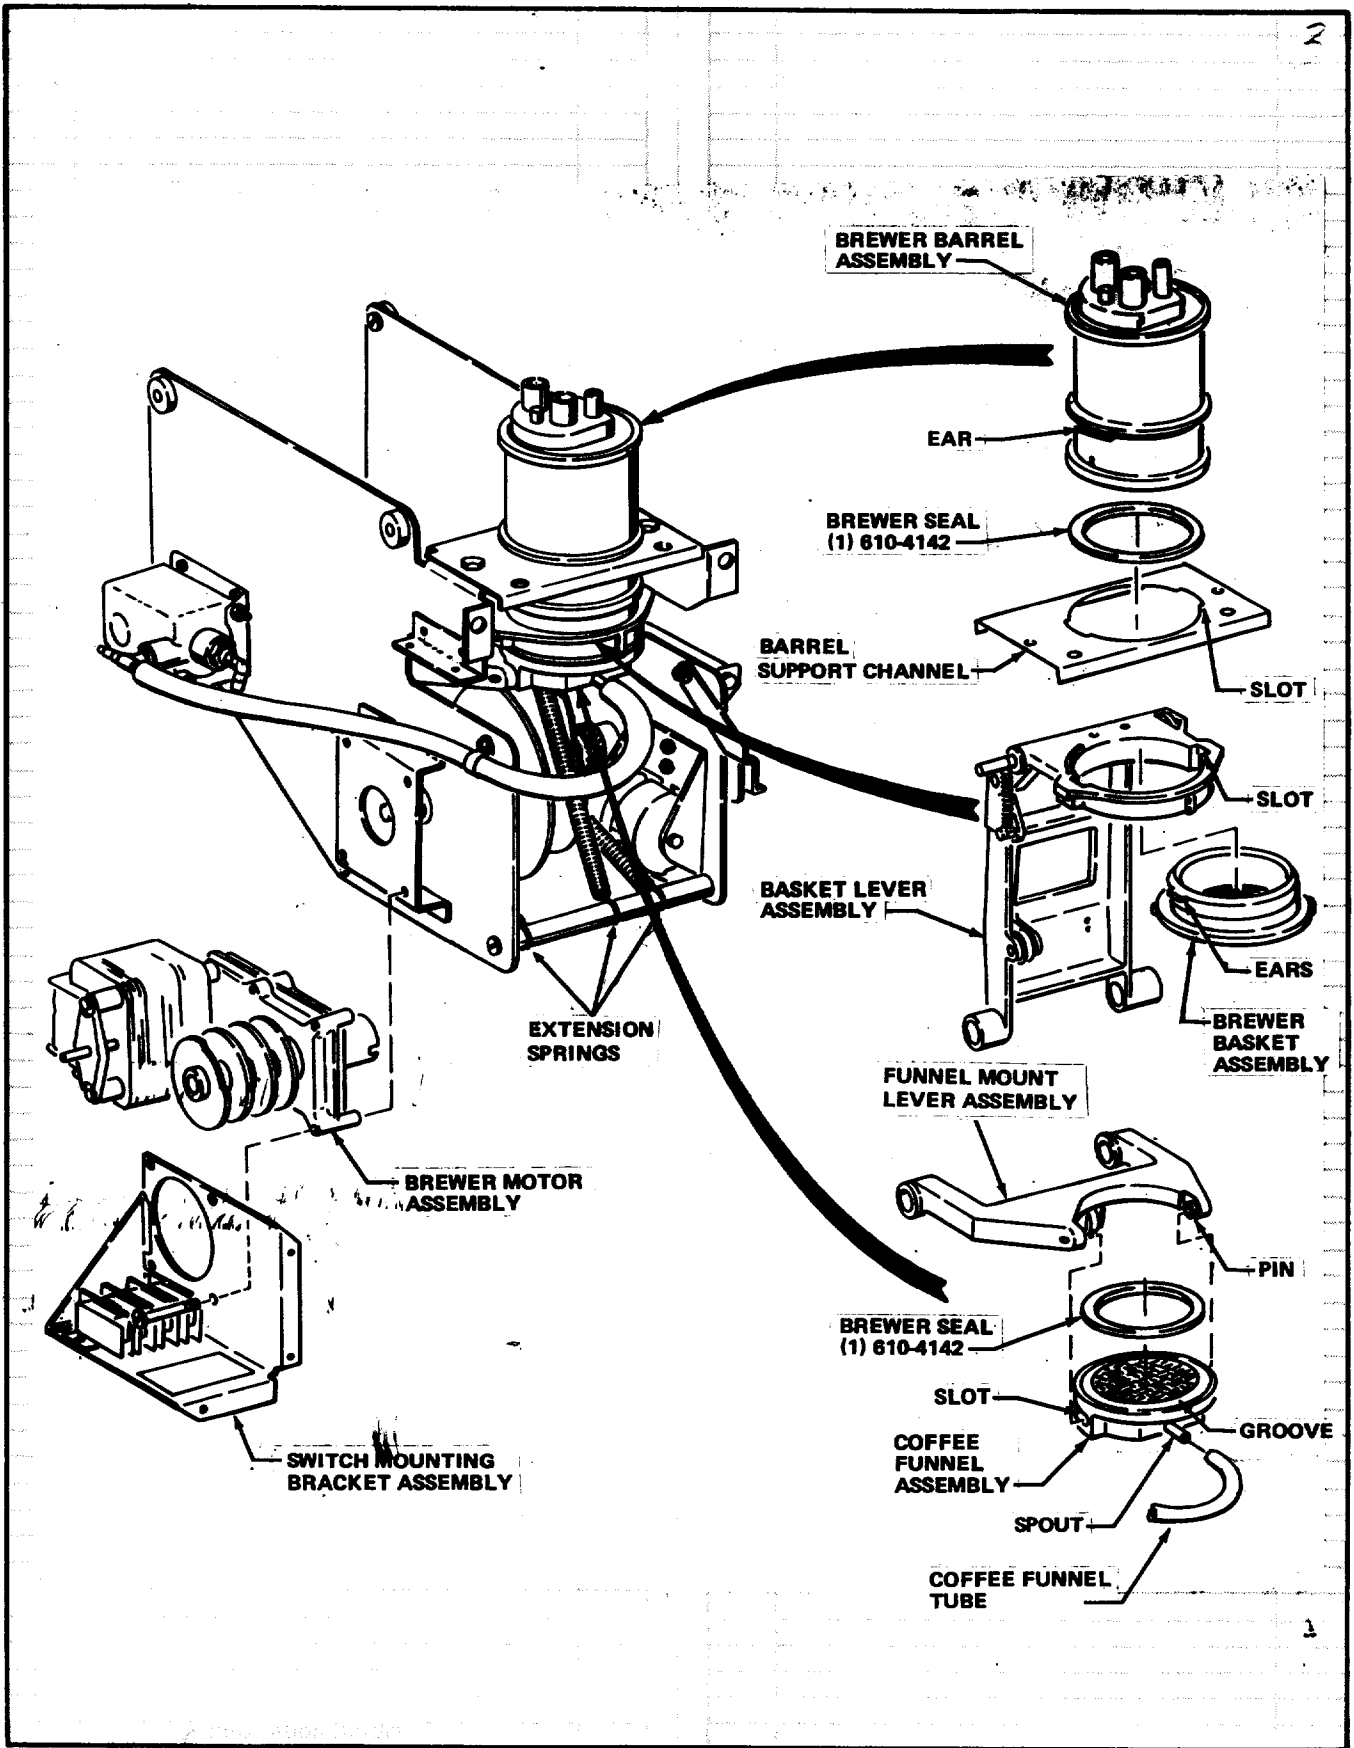
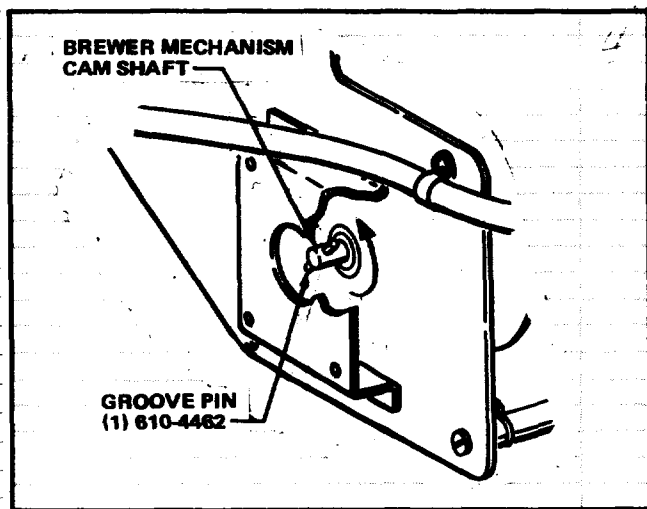
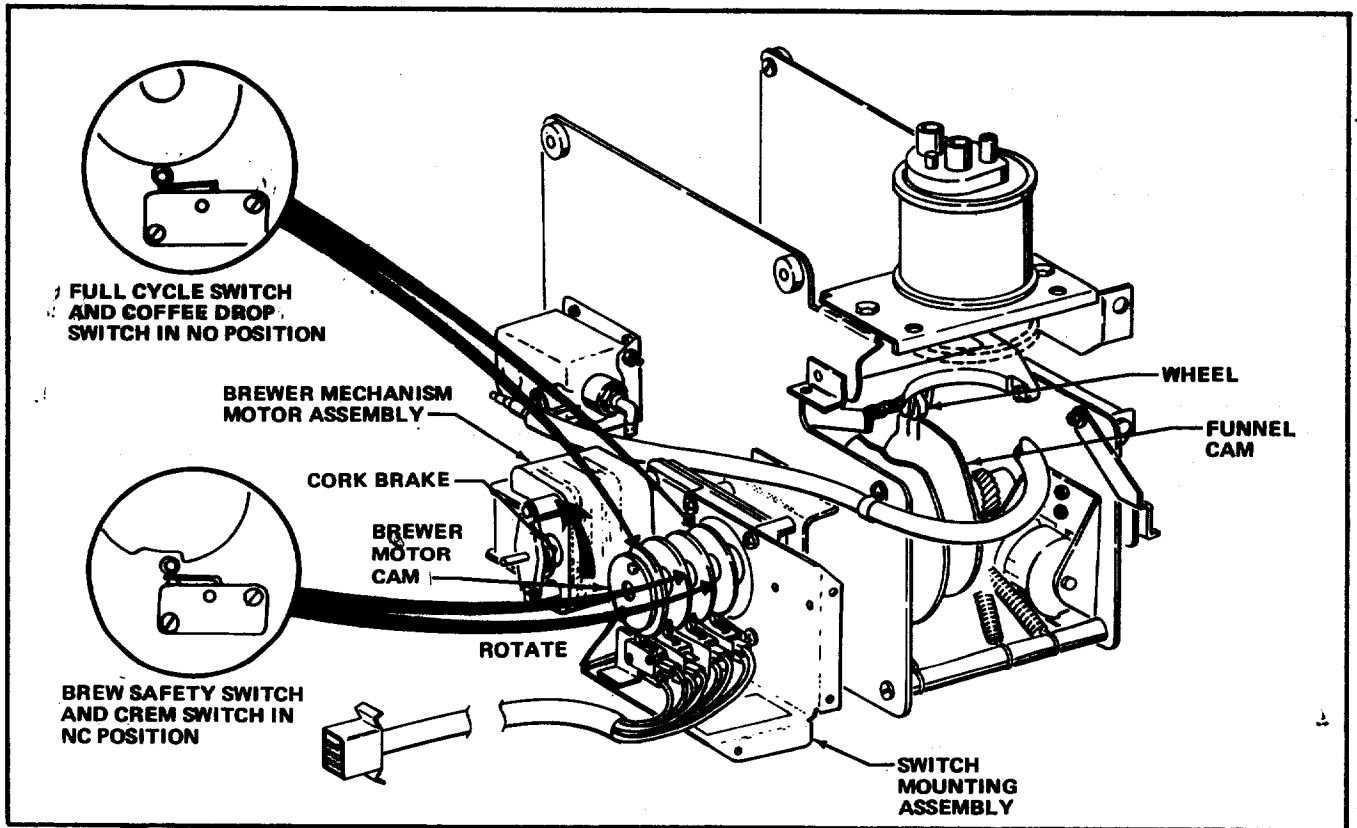

FIGURE 4
FIGURE 5
FIGURE 10
13. Rotate the Brewer Basket Assembly one-quarter turn clockwise to align the ears on the Brewer Basket Assembly with the slots in the Basket Lever Assembly. Lower the Brewer Basket Assembly out of the Basket Lever Assembly. See Figure 4.
14. Rotate the Brewer Barrel Assembly until the ears on the Brewer Barrel align with the slots in the Barrel Support Channel. Lift the Brewer Barrel Assembly out of the Brewer Mechanism. See Figure 4.
15. Remove the Brewer Seal from the Brewer Barrel Assembly. See Figure 4.
16. Remove the Coffee Funnel Tube from the Coffee Funnel Assembly. See Figure 4.
17. Tilt the front edge of the Coffee Funnel Assembly down and slide the Funnel off the Pins on the Funnel Mount, Lever Assembly. See Figure 4.
18. Remove the Brewer Seal from the Coffee Funnel Assembly. See Figure 4.
19. Remove the three Extension Springs from the Spring Mounting Spacer to the Flip Lever Assembly, Funnel Mount Lever Assembly and Basket Lever Assembly. See Figure 4.
20. Remove the four No.10-32 x 1-1/2 Pan Head Screws with Lockwashers and lift out the Switch Mounting Bracket Assembly and the Brewer Motor Assembly. See Figure 4.
21. Remove the damaged tapered Groove Pin from the Brewer Mechanism Cam Shaft. See Figure 5.
7. Install the replacement Groove Pin, Part Number 610-4462, included in the Kit. Tap the small end of the tapered Groove Pin in the hole of the Cam Shaft until the Groove Pin is centered in the shaft. See Figure 5.
8. Install the Brewer Motor Assembly and Switch Mounting Bracket Assembly making sure the replacement Groove Pin fits in the slotted Coupling of the Brewer Motor Assembly. Secure with four No.10-32 x 1-1/2 Pan Head Screws with Lockwashers. See Figure 4.
9. Manually rotate the Cork Brake on the Brewer Mechanism Motor Assembly in a counter-clockwise direction until the wheel on the Funnel Mount Lever Assembly is between the two lines on the Funnel Cam. See Figure 10.
10. With the Brewer Mechanism in the position as described in step "9", check that the Brewer Motor Cam holds the Full Cycle Switch and Coffee Drop Switch in the "NO" position and the Brew Safety Switch and C.R.E.M. Switch in the "NC" position. If it does not, remove the Brewer Motor Assembly and Switch Mounting Bracket Assembly, as in Figure 4, rotate the Cam Shaft in the Brewer Mechanism 180 degrees, as in Figure 5, and repeat step 8. See Figure 10.
12. Install the Brewer Basket Assembly by placing the Basket into the carrier from the underside of the Basket Lever Assembly. Align the ears on the Brewer Basket Assembly with the slots in the Basket Lever Assembly. Rotate the Brewer Assembly counter clockwise one-quarter turn until the Brewer Basket locks in the Brewer Basket Stop. See Figure 4.
13. Install the Brewer Seal, Part Number 610-4142, included in the Kit, in the groove of the Coffee Funnel Assembly, by pushing the Brewer Seal on opposite sides until it seats in the groove. See Figure 4.
14. Install the Coffee Funnel Assembly by sliding the Funnel onto the Pins of the Funnel Mount Lever Assembly. Check that the flat sides of the slots in the Funnel are aligned with the flat sides of the Pins. Rotate the Funnel into place. See Figure 4.
15. Attach the Coffee Funnel Hose to the spout on the Coffee Funnel Assembly. See Figure 4.
16. Install the Brewer Seal, Part Number 610-4142, included in the Kit, in the groove of the Lower Brewer Barrel Assembly by pushing the Brewer Seal on opposite sides until it seats in the groove. See Figure 4.
17. Install the Brewer Barrel Assembly by fitting the ears on the Barrel into the slots in the Barrel Support Channel. Rotate the Barrel until the word "REAR" on the top of the Brewer Barrel Assembly is towards the rear of the Brewer Mechanism. See Figure 4.